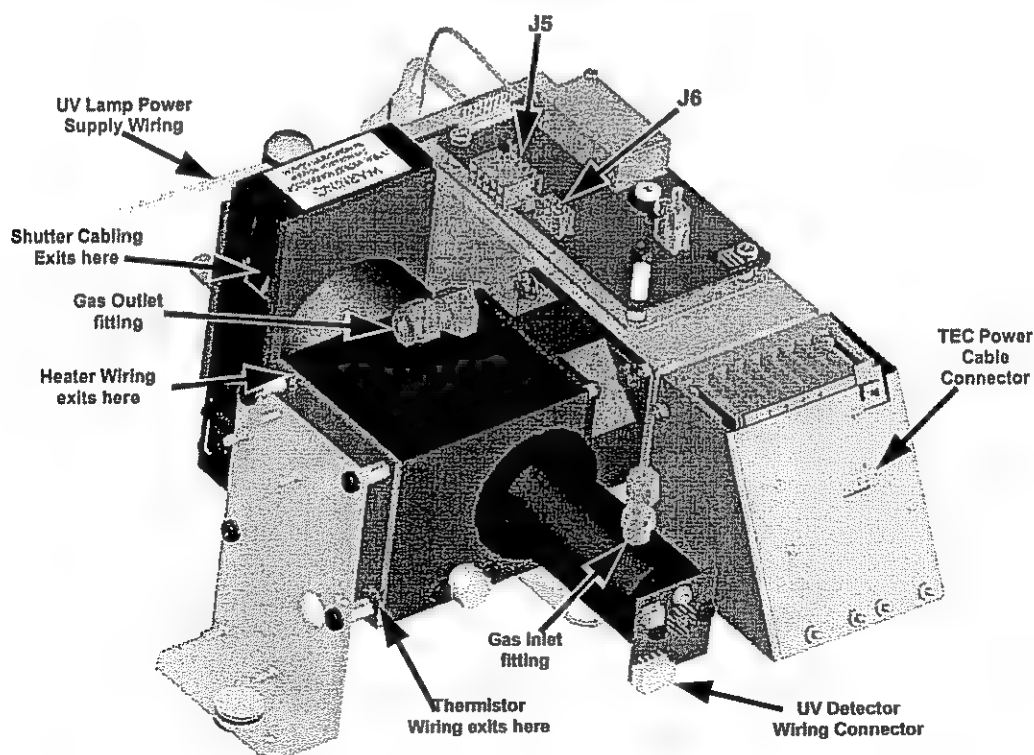

Figure 11-7: Sensor Module Wiring and Pneumatic Fittings
3. Disconnect the sensor module pneumatic lines (see Figure 11-7)